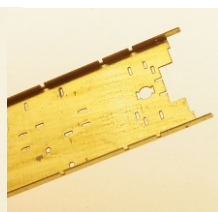

FIG. 9
- 11.) With E-Floor bend lines oriented up , bend both sides of E-Floor along etched lines up until a 90 degree angle is achieved. Refer to [FIG. 9]